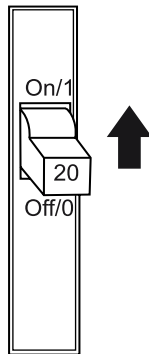

Figure 71. GFCI Circuit Breaker
2. Place a GFCI circuit breaker (Figure 71) in the **ON** position.